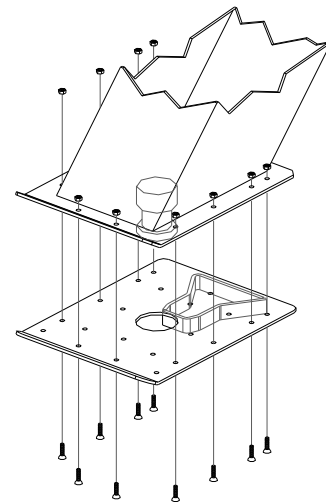

Figure 2
**FOR KING PIN BOXES WITH A FLANGE:** (Figure 2).